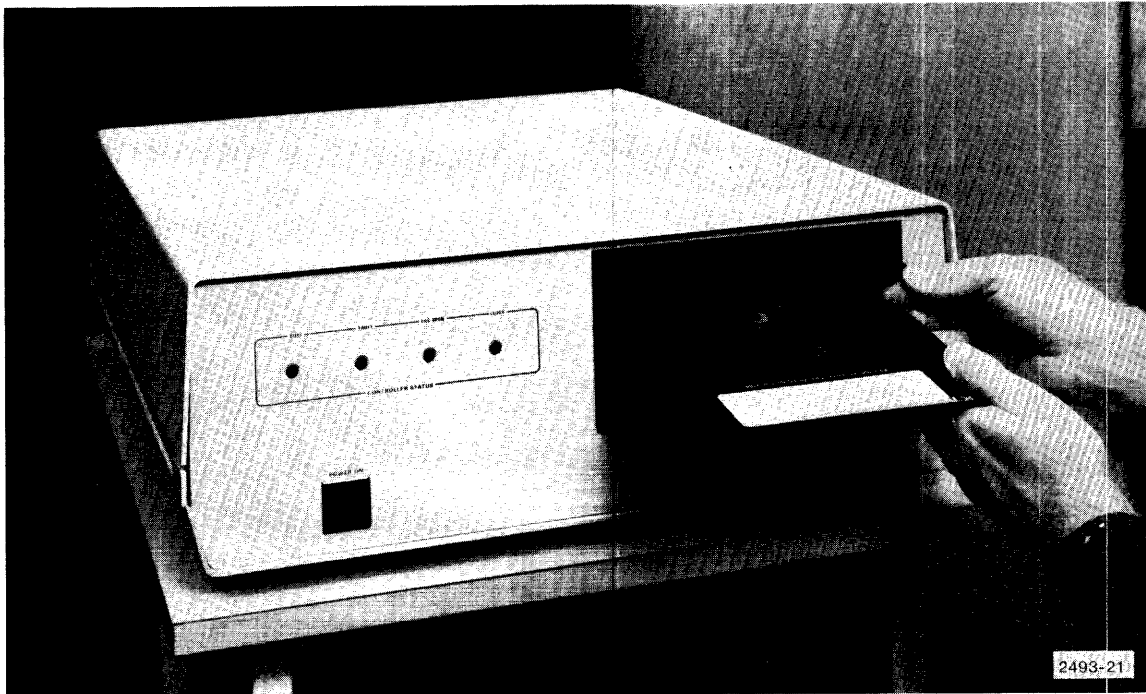

Figure 3-18. Placing disc in drive.
1. Raise the door on front of drive and place flexible disc in cavity as shown (Figure 3-18). Slide disc, with label up, as far in as it will go. Be sure tape is covering the write-protect hole whenever formatting or writing to a disc.